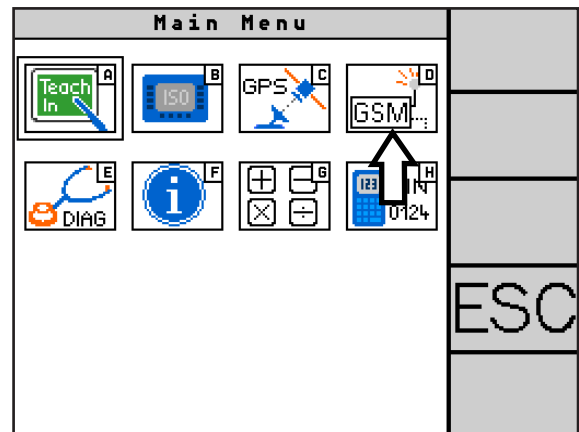

Fig. 108: Call up CLUE modem configuration
Select “GSM” (D) in the main menu (see Fig. 108) to call up the CLUE modem configuration.